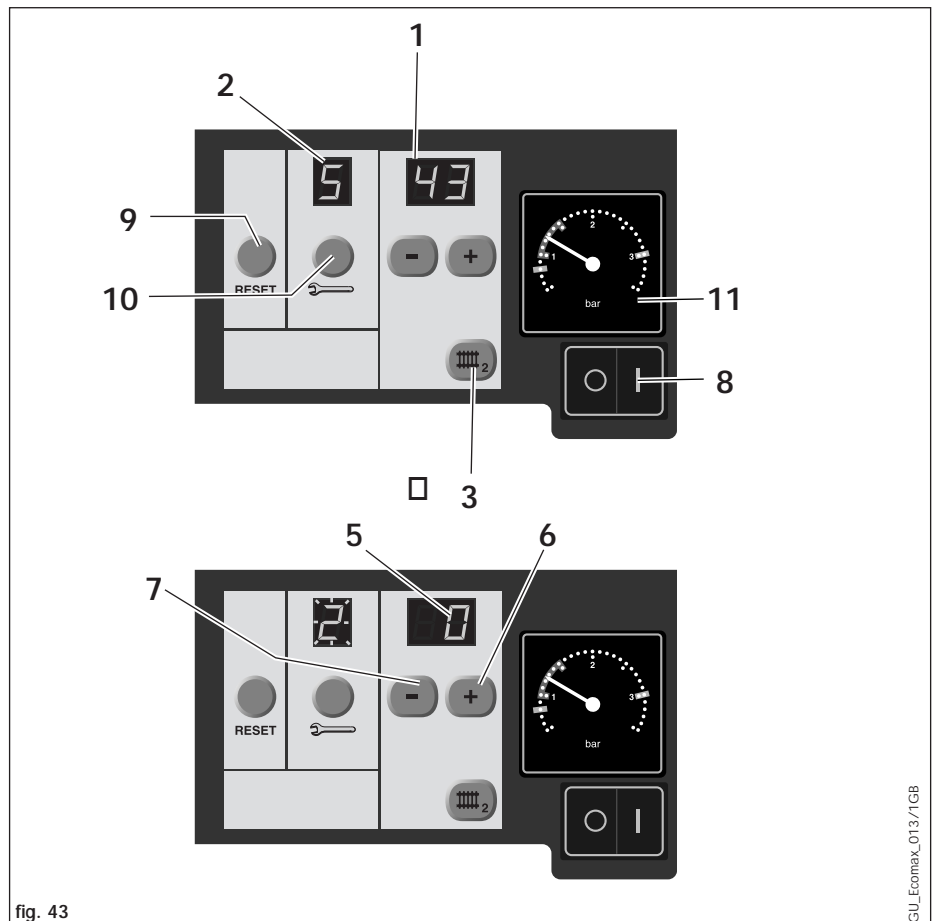

fig. 43
The boiler display (1 and 2, fig. 43) normally indicates boiler operating status and boiler flow temperature. Whilst this display is showing the boiler has internally self checked and is operating normally.
The operating status of the boiler is permanently displayed by a series of codes which appear in the status window (2, fig. 43) of the boiler display. This information can be used to carry out a functional check of the CH operation. Table 6 details the meaning of the status indicators.
- Press the central heating temperature button  (3, fig. 43).
Operate boiler and turn off gas supply at boiler gas service valve. The boiler should attempt to relight for approximately 5 seconds before shutting down. The boiler will attempt re-ignition five times after which fault code F21 will be displayed on the diagnostic display. Open the gas service valve and press the reset button (9, fig. 43). The boiler should now relight.
(The actual reading on the pressure gauge (11, fig. 43) should ideally be 0.5 bar plus an additional pressure corresponding to the highest point of the system above the base of the boiler - 10 m head equals and additional 1 bar reading on the pressure gauge. The minimum pressure should not be less than 1 bar in any installation.)
- Press the central heating temperature button  (3, fig. 43)
- Press the  button (7, fig. 43) to decrease the central heating temperature to '0'.
- Press the  button (6, fig. 43) to increase the central heating temperature.
5.15.4 Main on/off switch (8, fig. 43)
5.15.5 Boiler Reset Button (9, fig. 43)
A further ignition attempt can only take place after the boiler reset button (RESET) (9, fig. 43) has been pressed.
5.15.6 Diagnostic Button (10, fig. 43)
ECOmax 600 appliances have a built in diagnostic system which assists during commissioning and fault finding. The diagnostic system is accessed using the  button (10, fig. 43). Refer to the Section 8. Fault finding for further information.